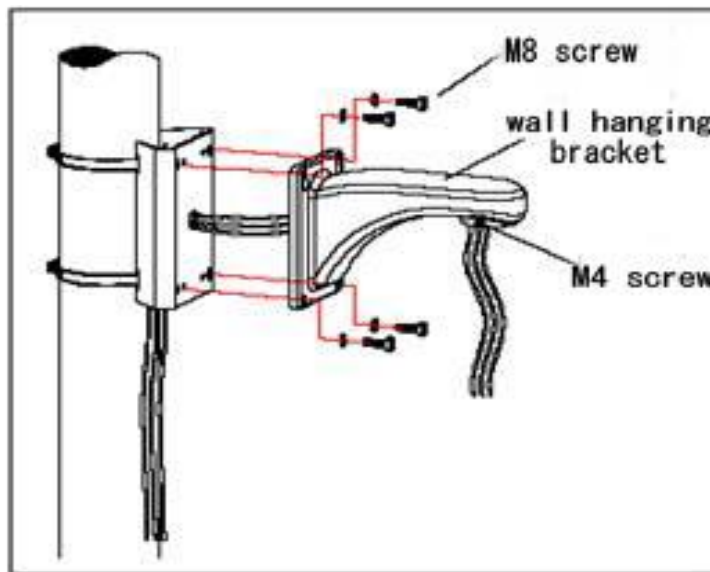

Fig 2.9
b. As shown in fig 2.9, fix the wall hanging bracket with all cables through it on the pole mounted attachment.